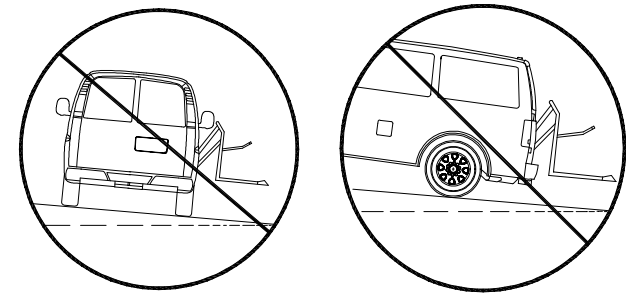

FIGURE 2-1: DO NOT DEPLOY LIFT WHEN VEHICLE IS ON SLOPED GROUND
- Refer to **Figure 2-1**. A hazardous situation may exist when using the lift or ramp if the vehicle is parked on either a side or front-to-rear slope. Always operate the lift or ramp with the vehicle parked on level ground.